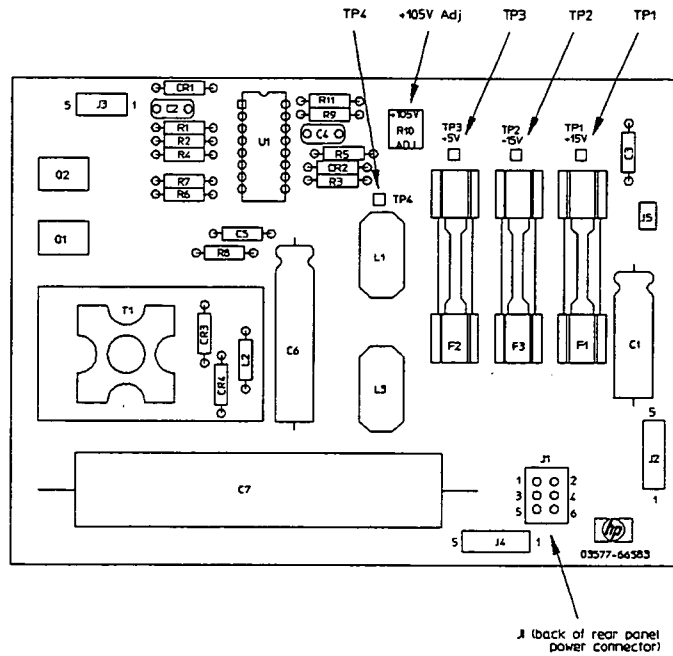

Figure 5-10. A83 Adjustment Locations for Low Voltage Power Supply
- a. Apply power to the rear panel power connector and check input power supplies as indicated in table 5-6. Refer to figure 5-10